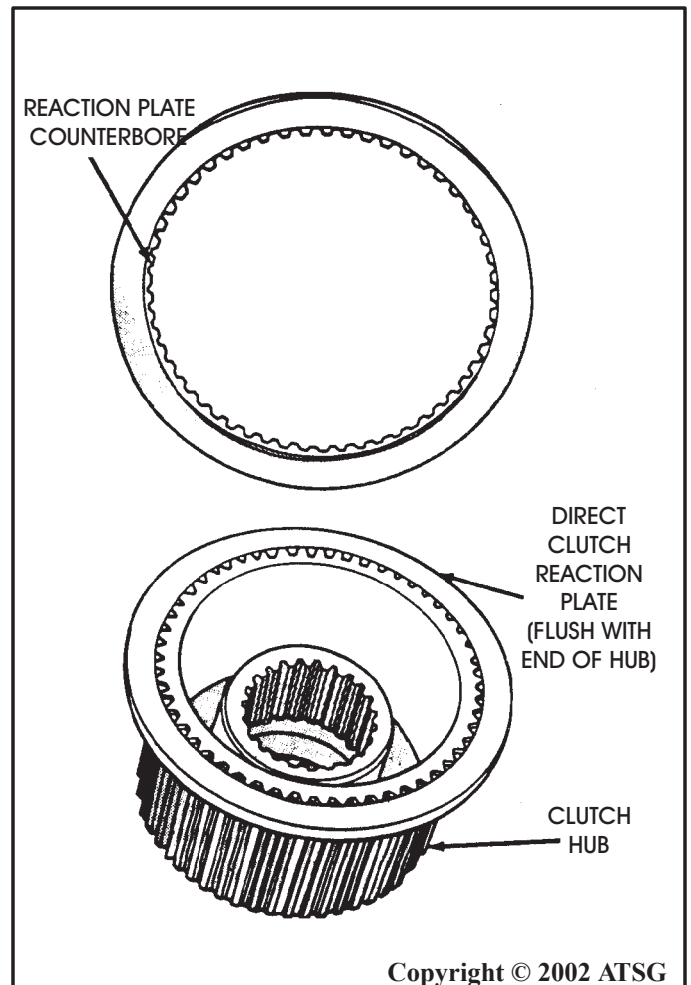

Figure 15
20. Install the direct clutch reaction plate on direct clutch hub first. Notice that one side of reaction plate is counterbored on the inside diameter, as shown in Figure 15. Be sure this side faces rearward. Splines at rear of direct clutch hub are slightly raised. The counterbore in reaction plate fits over raised splines. Plate should be FLUSH with this end of hub, as shown in Figure 15.